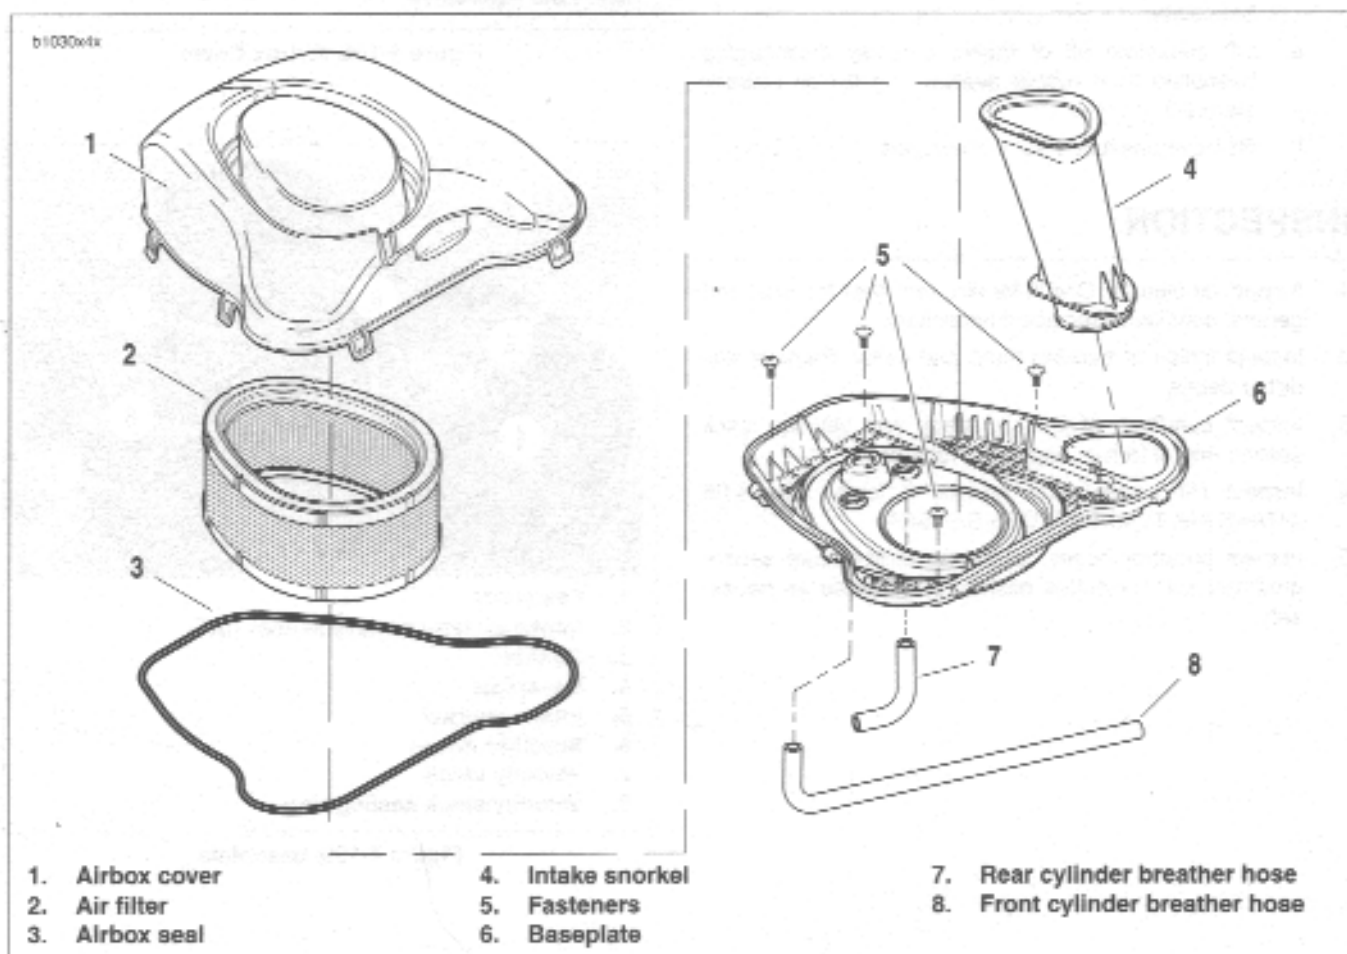

Figure 4-110. Airbox
1. See Figure 4-110. Hold baseplate above mounting position.